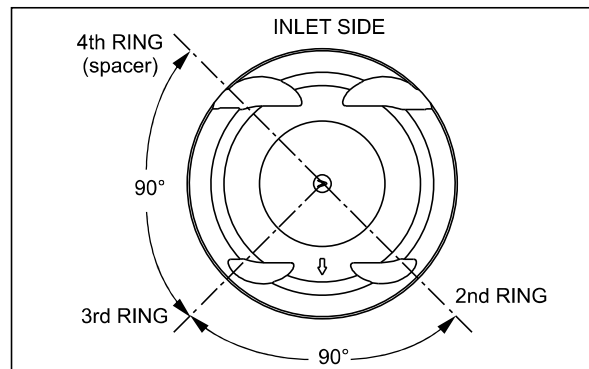

Fig. 3.102
- Align the end gap of 3rd ring (oil rail top) at 90 degree from the end gap of the second ring as shown. (Fig. 3.102)
- Similarly, align the end gap of 4th ring (spacer) at 90 degree from the end gap of the third ring as shown. (Fig. 3.102)